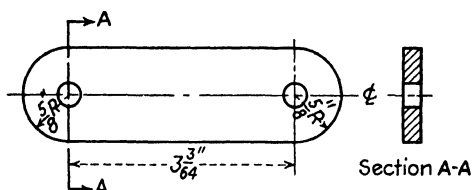

Fig. 310.—1/8-in. cold-rolled, S.A.E. 1025, 2 holes drilled 3/16 in. diameter.
46. Find the over-all length of the fitting shown in Fig. 310.
47. Make a full-scale drawing of the fitting in Fig. 310.
48. Find the top surface area of the fitting in Fig. 310.
51. What is the tensile strength at section *AA* (Fig. 310)?
52. What is the bearing strength at *AA* (Fig. 310)?